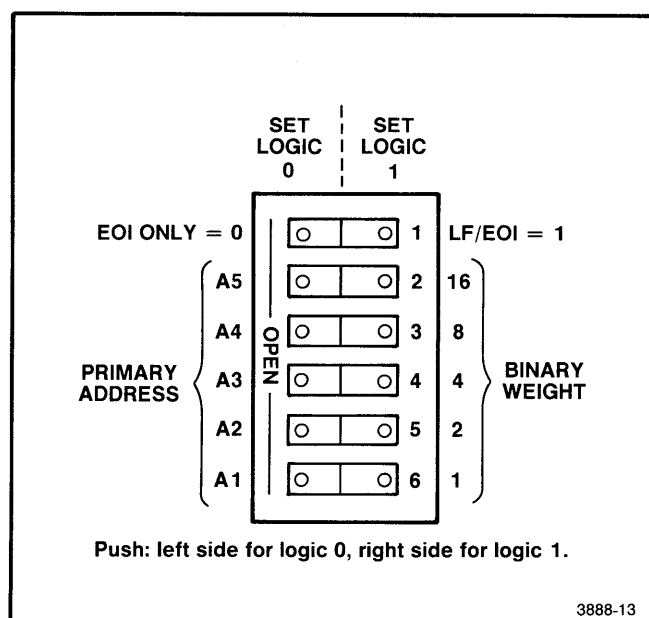

Fig. 5-9. Bus address and message terminator switches.
A single bank of six switches is located on the Digital board. See Fig. 5-9.
The top switch (number 1), illustrated in Fig. 5-9, is used to select the terminator of messages on the bus. If LF/EOI is selected, the DC 5010 interprets either the line feed (LF) character or the assertion of EOI concurrently with a data byte as the end of an input message string. If EOI ONLY is selected, the DC 5010 interprets the byte sent with EOI asserted as the end of an input message string.